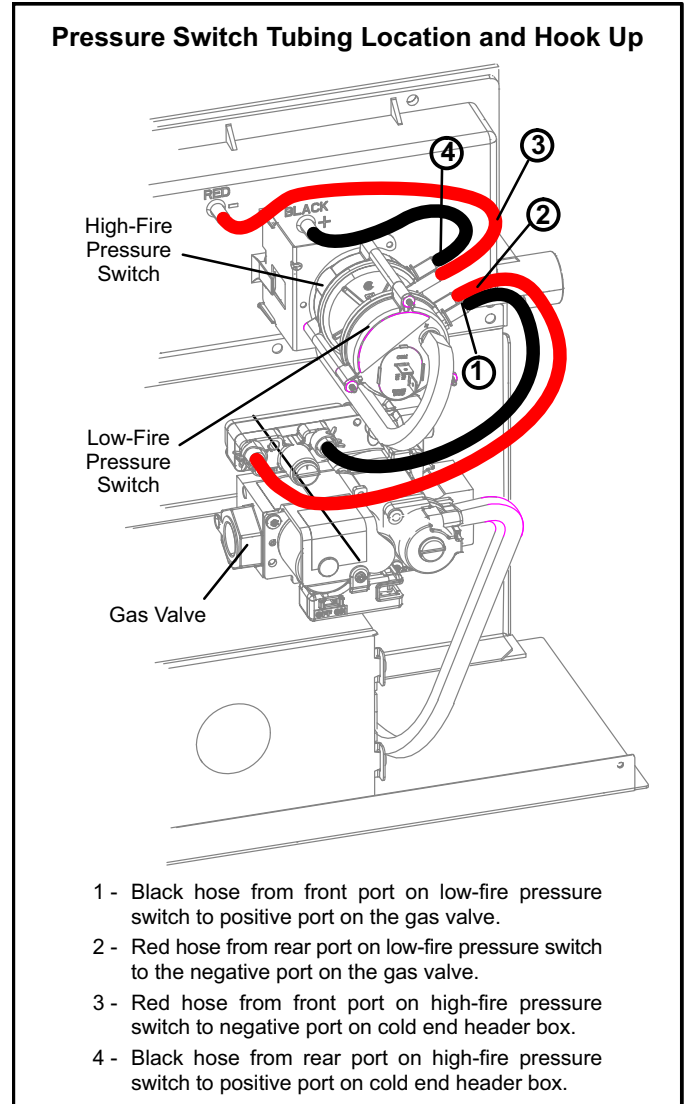

FIGURE 3
15. -Re-install the pressure switch. Reconnect wires to the pressure switch. Take extra care not to bend terminals. See figure 3 for proper tubing location.